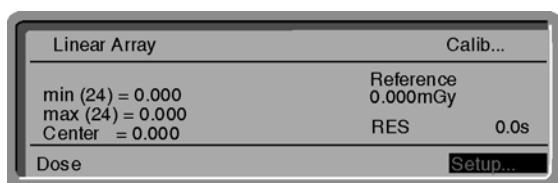

Figure 3-1: Cursor on "Setup..."
- Position the cursor with ▲ and ▼ on "Setup..." (Figure 3-1) and press ENT.